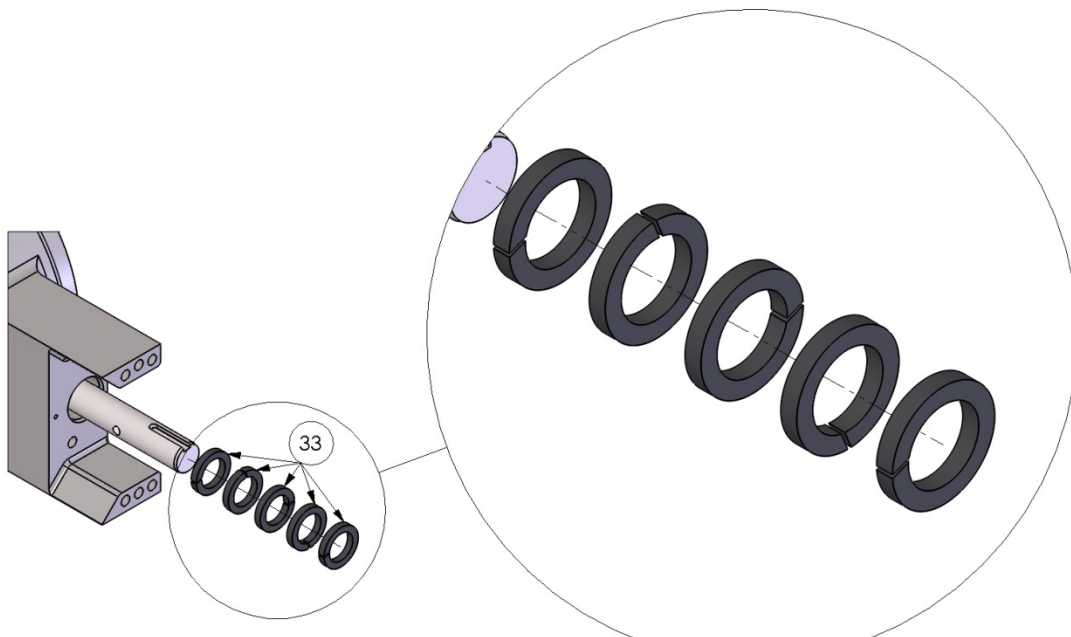

Fig. 5a
- b. Insert the new packing set (Item 33) being sure to the split in the packing is rotated 90° from the last packing ring. (see fig. 5a)